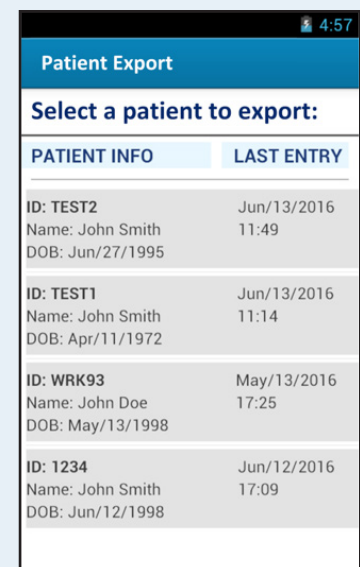

Figure 5-19:
- Export Patient Data - select individual patient records to export (Figure 5-19). Press **CONTINUE** to confirm data export. Press **CANCEL** to return to **Data Export Options**.